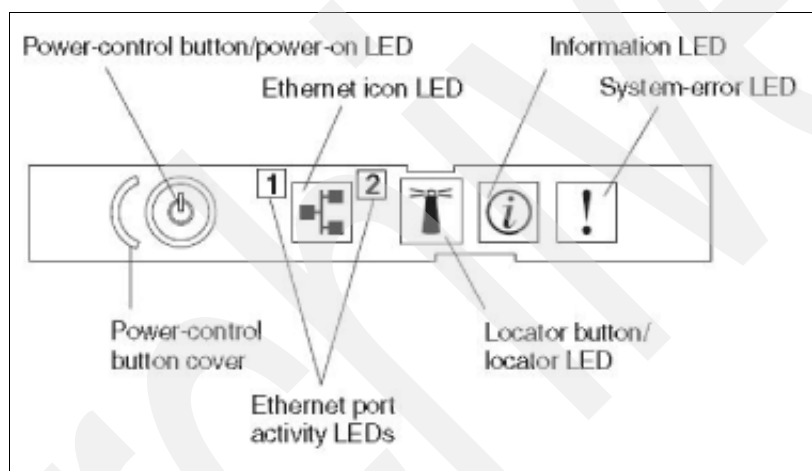

Figure 6-2 ProtecTIER server operator panel
- To power on the ProtecTIER server, press the white, recessed power-control button on the ProtecTIER server operator panel, shown in Figure 6-2.